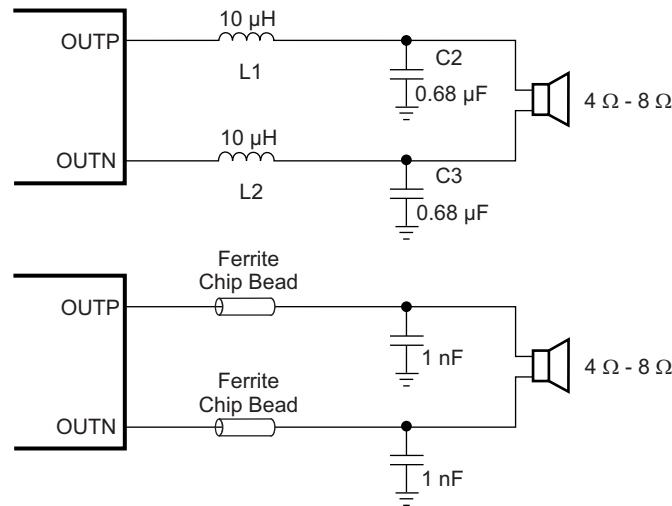

Figure 30.
- Output filter — The ferrite EMI filter (see Figure 30) should be placed as close to the output terminals as possible for the best EMI performance. The LC filter should be placed close to the outputs. The capacitors used in both the ferrite and LC filters should be grounded.